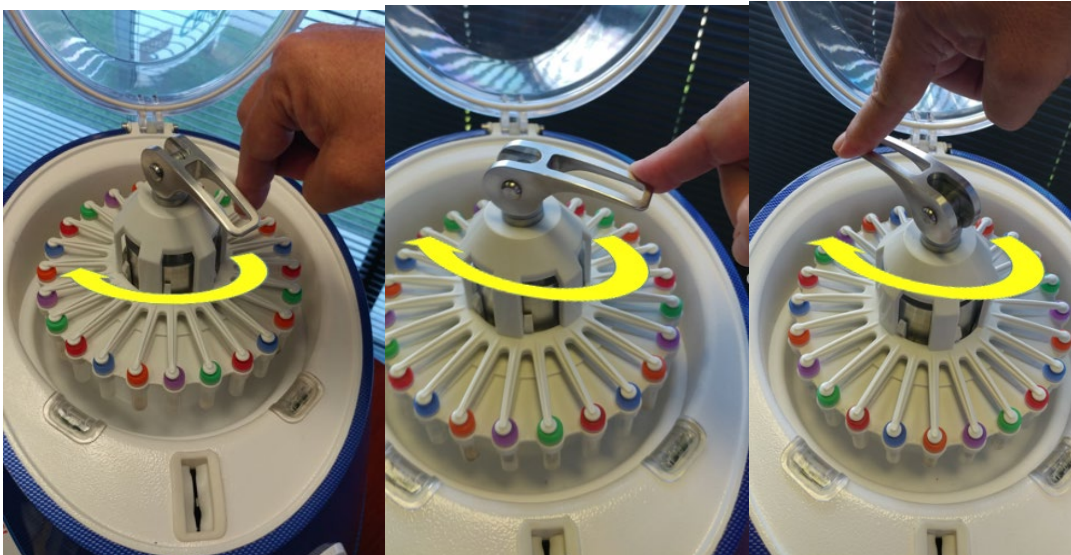

Figure IV-8: Rotate Cam Lock Clockwise
13. Rotate 'Cam Lock' clockwise to tighten. There should be no resistance and rotation should be done using one finger (Figure IV-8).